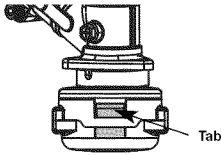

Fig. 20
1. Firmly press in on the tabs that are on each side of the cutting head (Fig. 20)